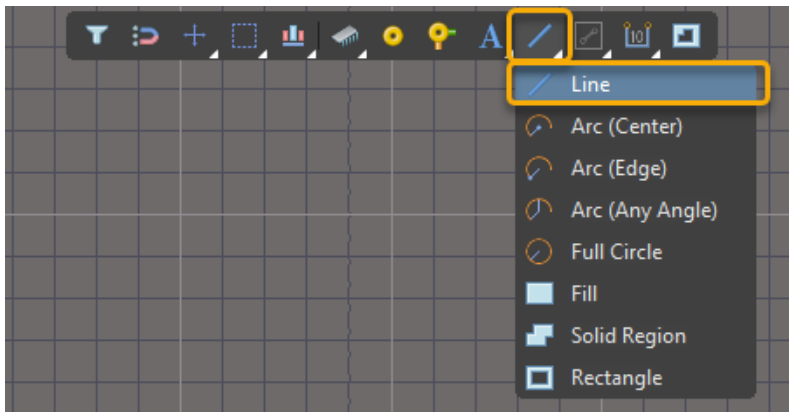

Figure 37. Placing a Line
56. Right click on the **Graphical Place** menu in the **Active Bar**, and select line, as shown in Figure 37. Alternatively, to place a line go to the **Place » Line (P,L)** command.